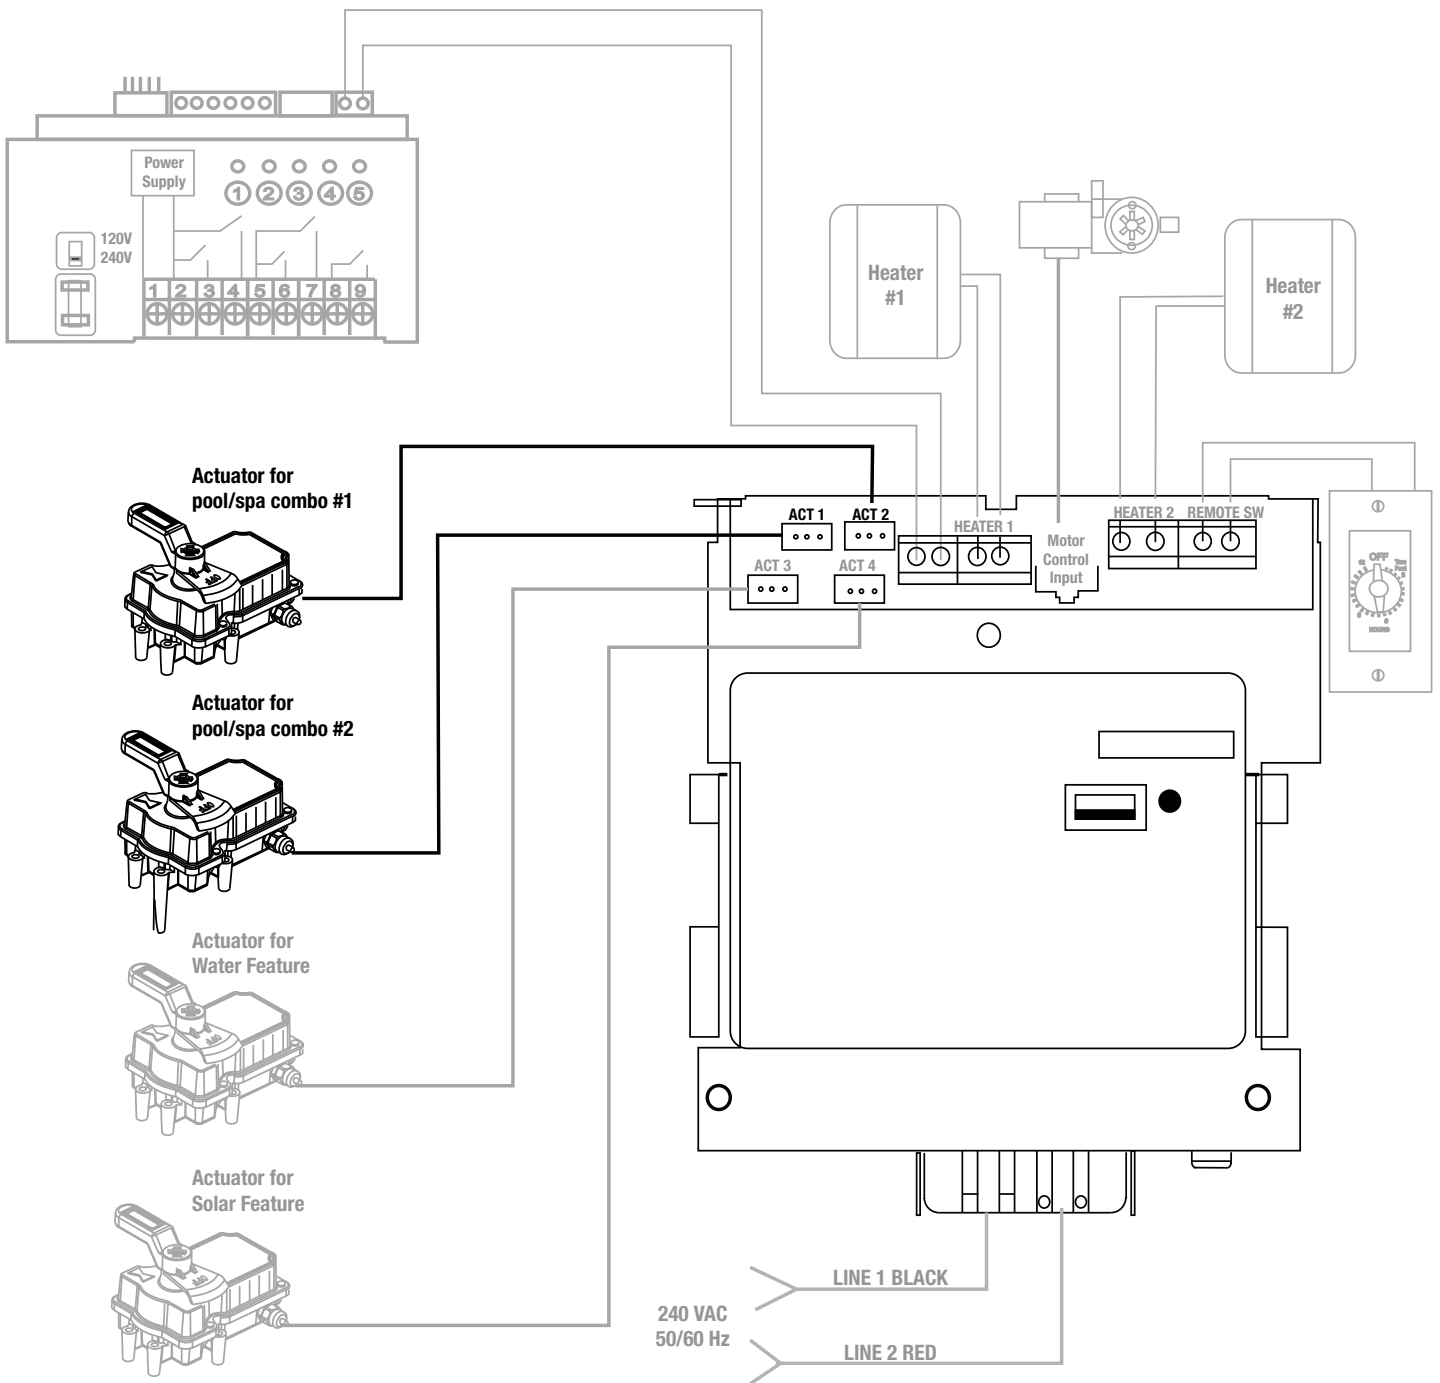

Figure 5-4. Connecting Equipment to P5043ME.
1. Insert the network cable into the Motor Control Input as shown in Figure 5-4.